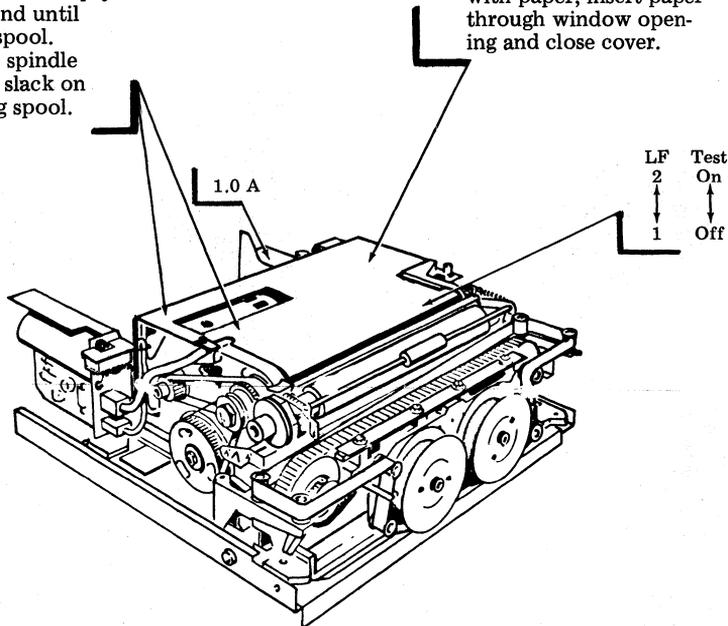

Fig. 19—80-Column Friction Feed Printer
4.01 Check that the printed instructions on the printer cover are legible. Clean with cloth. See Fig. 19, 20, 21 and 22.